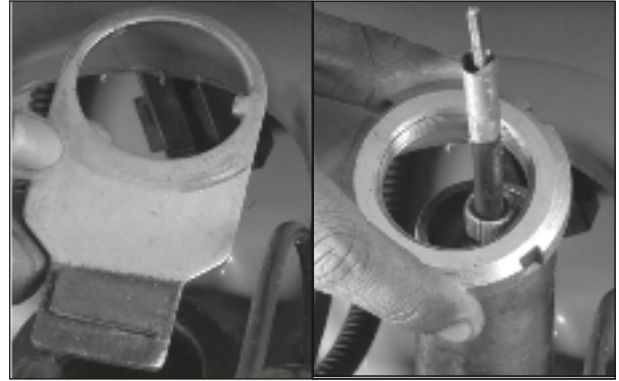

Fig. 2.105
- Take out the friction plate assembly. (Fig. 2.105)
- Loosen and remove the lock nut (bottom) steering column using special tool. (Fig. 2.105)